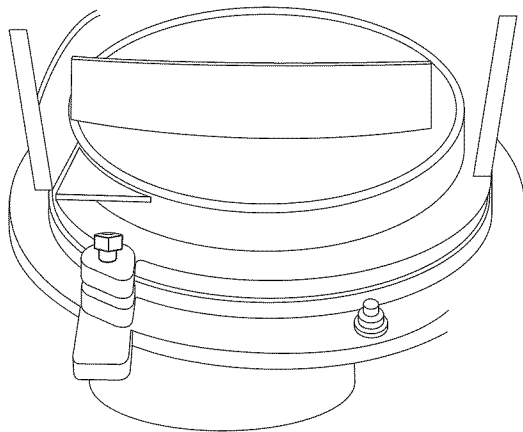

Figure 3
1. Loosen and remove the bolt and washer from the chute chassis. (see Fig. 3)
4. Fasten the bolt and washer. (see Fig. 3)